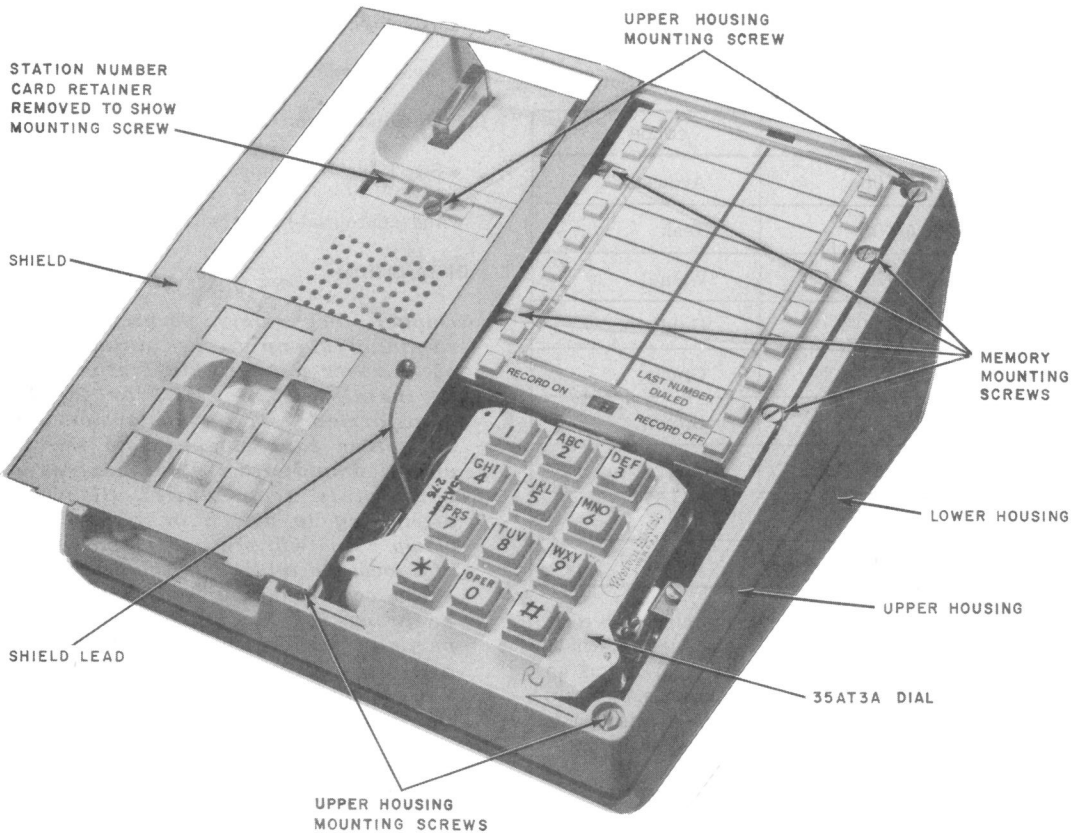

Fig. 4—2960A01M Telephone Set With Handset and Faceplate Removed and Shield Laid Aside
- 841388721 Shield (Fig. 4)
- (4) Insert the three leads from the switch assembly between the circuit board and the chassis under the memory.
- (5) Replace the lower housing and place the set upright.
- (6) Remove faceplate (paragraph 3.15).
- (7) Disengage the four captive memory mounting screws (Fig. 4).
- **Shield**—underneath faceplate and is positioned over the dial and Memory (Fig. 4).
- **TOUCH-TONE Dial**—fastened by two screws and located on the top side at right-front corner of the chassis (Fig. 4).
- **Memory**—fastened by four screws and located just to the rear of the dial on the top right side of the chassis (Fig. 4).
- **Upper Housing**—fastened by four screws to the top side of the chassis (Fig. 4).